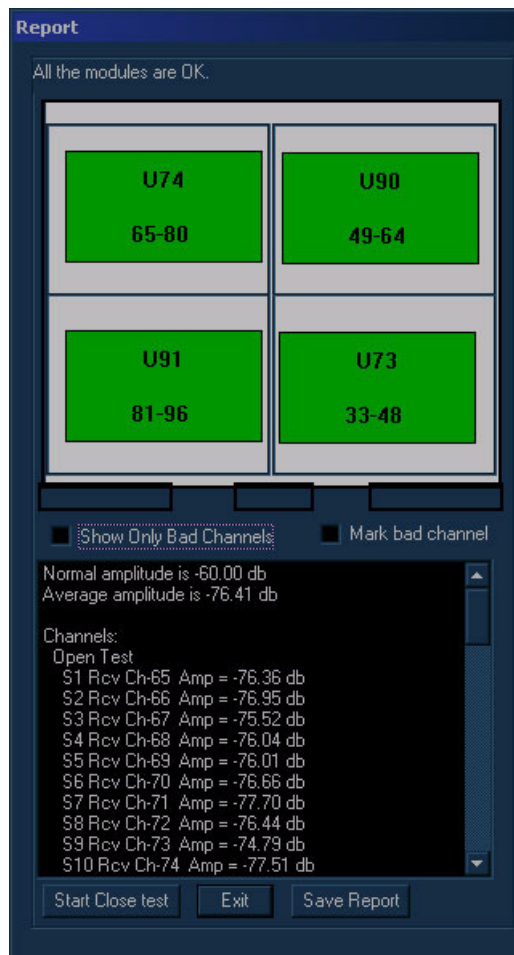

Figure 7-20 Report Dialog Box - Receive Test Low Frequency
- 6) Trackball to the **Low Freq Test** button and press **Select**. The receive test is performed in low frequency mode, and the test results are displayed in the *Report* dialog box, as shown in Figure 7-20 on page 7-37: